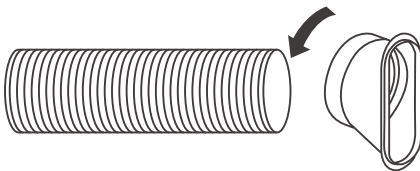

Fig.3
- Extend the other side of the hose and screw it to the hose outlet (Fig.3).